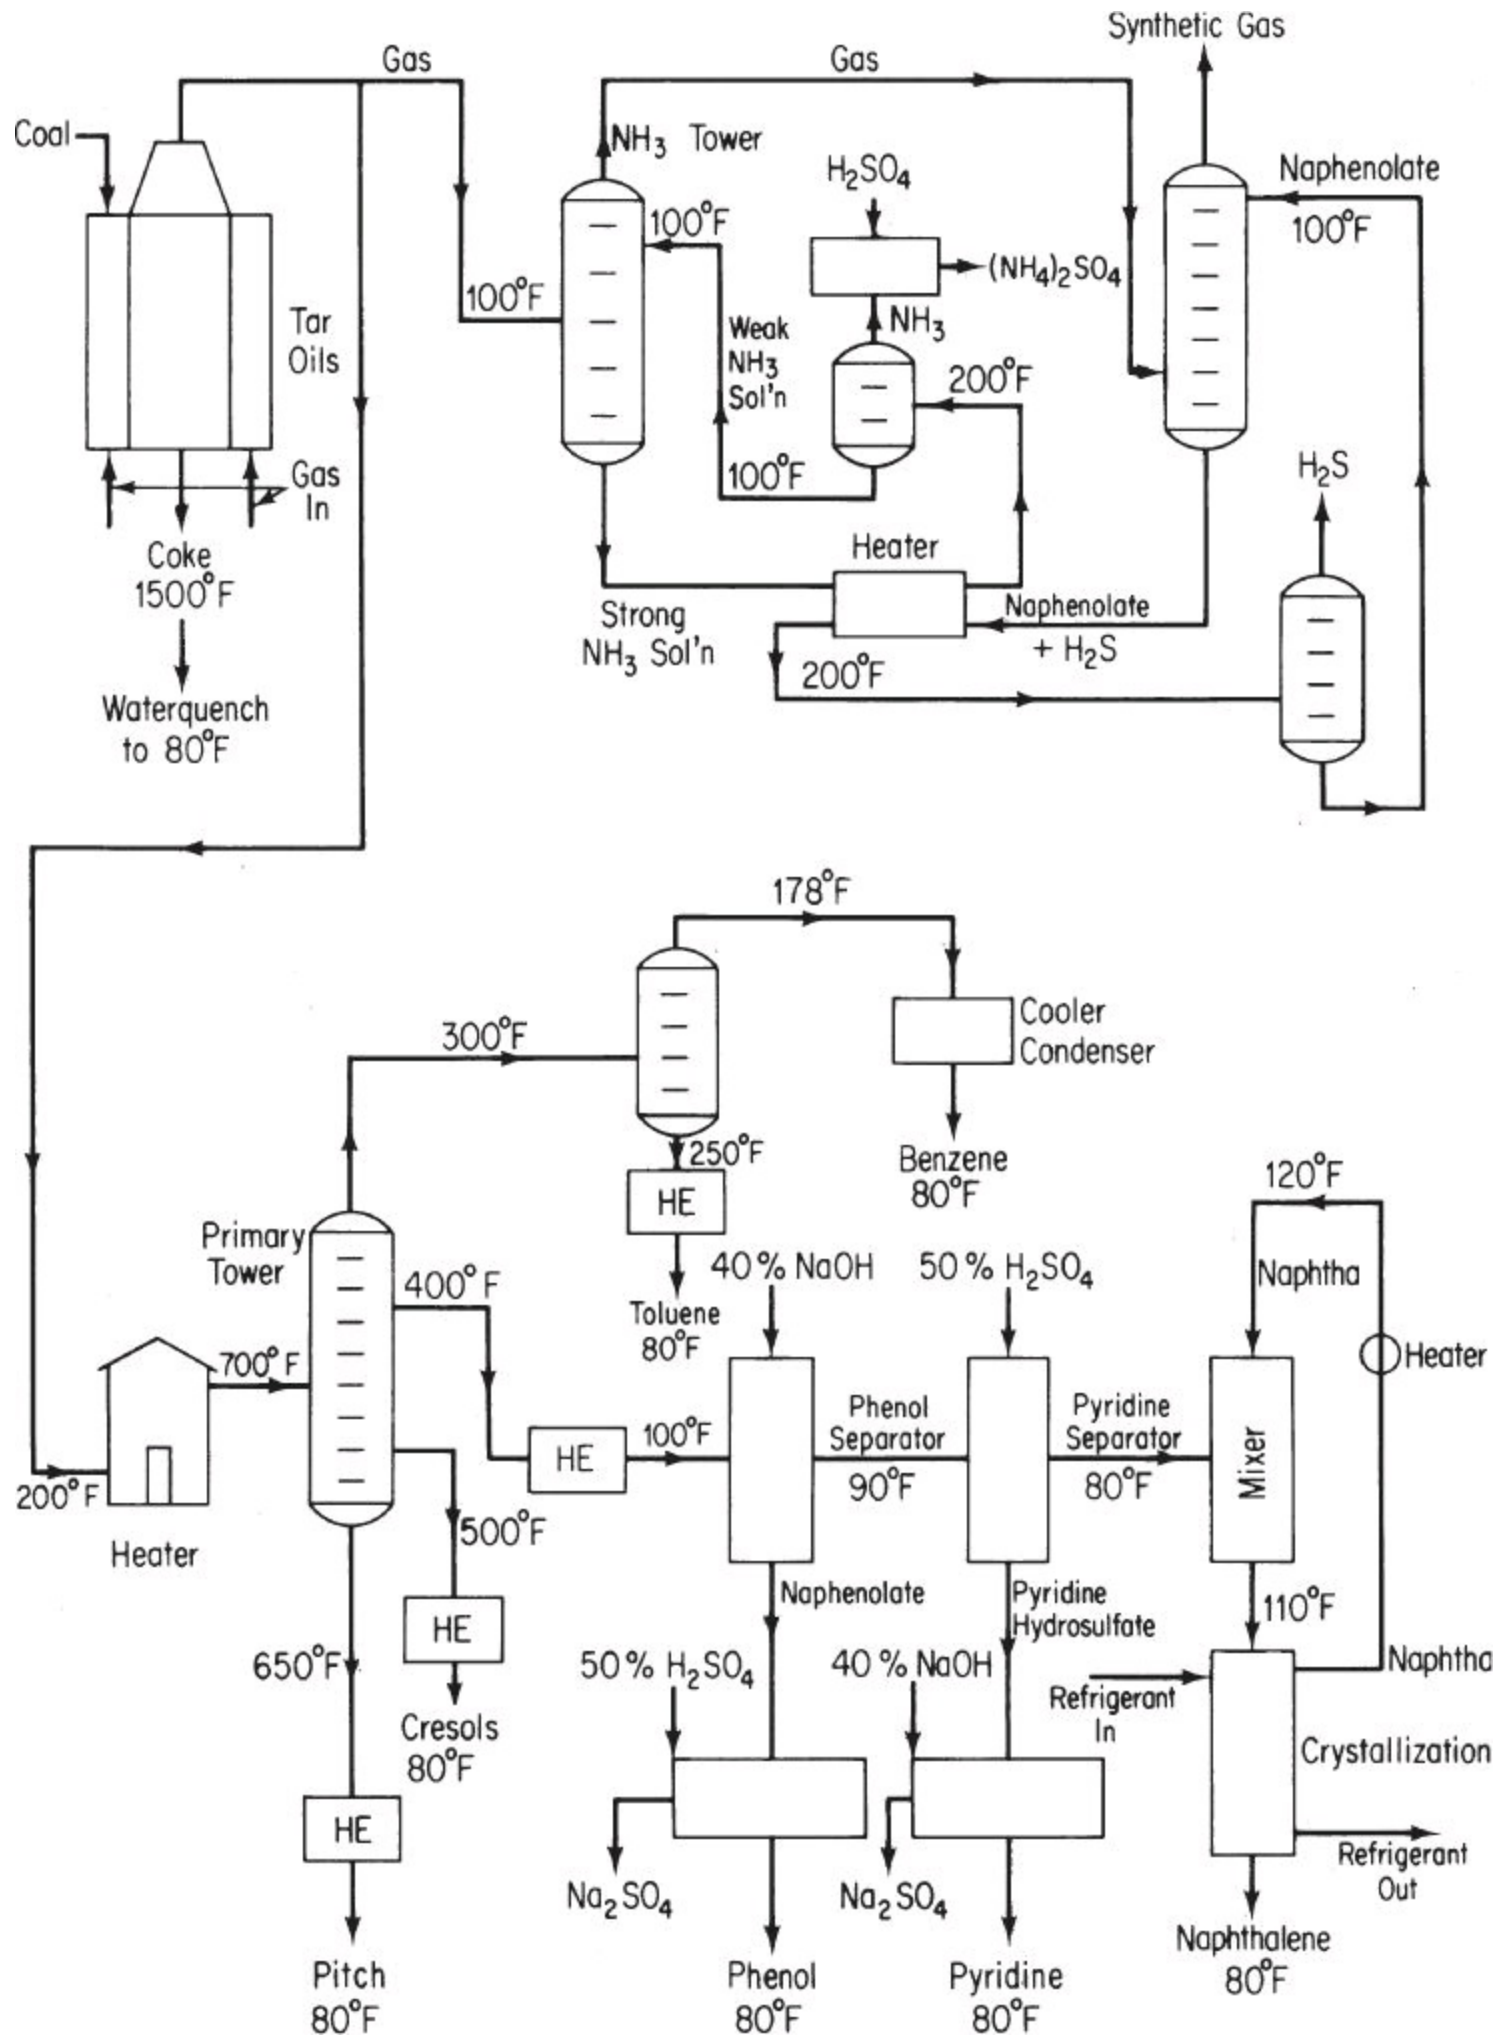

Figure P16.11
16.11. When coal is distilled by heating without contact with air, a wide variety of solid, liquid, and gaseous products of commercial importance are produced, as well as some significant air pollutants. The nature and amounts of the products produced depend on the temperature used in the decomposition and the type of coal. At low temperatures (400°C to 750°C) the yield of synthetic gas is small relative to the yield of liquid products, whereas at high temperatures (above 900°C) the reverse is true. For the typical process flowsheet, shown in Figure P16.11: